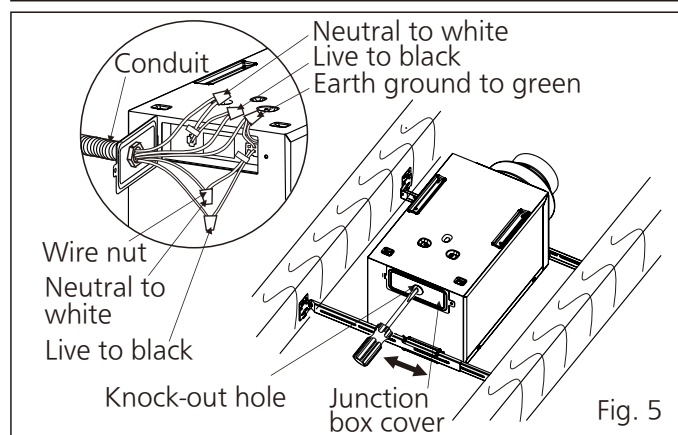

Fig. 5
7. Remove the knock-out hole from the junction box cover, and remove the junction box cover. Then secure the conduit or stress relief to the junction box knock-out hole. (Fig. 5)
8. Refer to wiring diagram (Page 5). Follow all the local electrical safety codes as well as the National Electrical Code (NEC). Using UL approved wire nuts, connect house power wire to ventilating fan wires. (Fig.5)